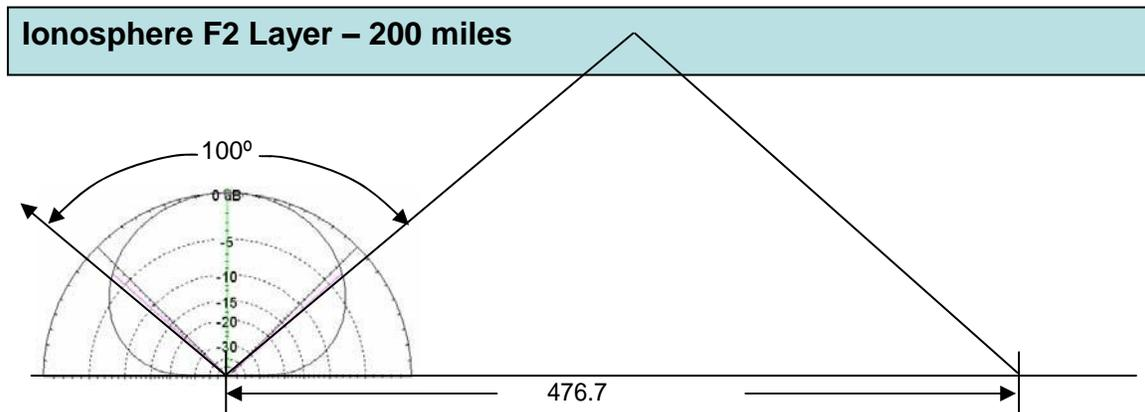

Figure 1: Required NVIS Antenna Vertical Directivity Pattern
A properly designed Near Vertical Incident Skywave (NVIS) antenna will have a directivity pattern that will maximize transmission and reception at high angles while rejecting low angle, long range noise. Further, this antenna must be tunable over at least an octave of frequency to track the local Critical Frequency (CF). The required directivity pattern is shown in Figure 1.
In both figures, the noise arrived at vertical angles of less than 30°. These thunderstorms, just like ours, are more likely to occur at various long ranges than on top of us. If we can achieve the directivity shown in Figure 1, we can achieve from 5dB to 15 dB of attenuation against distant noise. A more advanced NVIS antenna design might do even better.
The correct antenna pattern, shown in Figure 1, is surprisingly easy to generate. First let's look at the theory. Figure 4 shows a theoretical two-element yagi designed for 75m (3.8 MHz). The antenna consists of a half-wave dipole driven element and a passive reflector. The reflecting element is 5% longer than the driven element and is located 0.15 wavelengths behind the driven element. This is a very standard 2-element Yagi design. The resulting azimuth and elevation patterns can be seen in Figures 5 and 6.